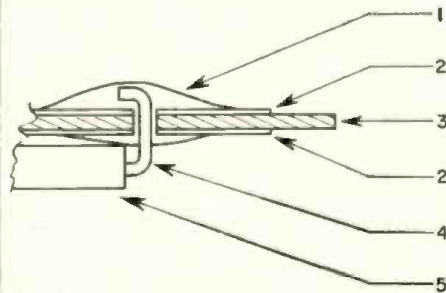

Fig. 1
Fig. 1 is a cross-sectional view of a typical solder joint. While the diagram shows a small diode or resistor it can serve for all such connections including switches, transformers, and filter capacitors. In this example, both sides of the board are etched, a further complicating factor. In Fig. 1, (1) is solder, (2) is etched wiring, (3) is Micarta or phenolic board, (4) is the component lead, and (5) is the component.